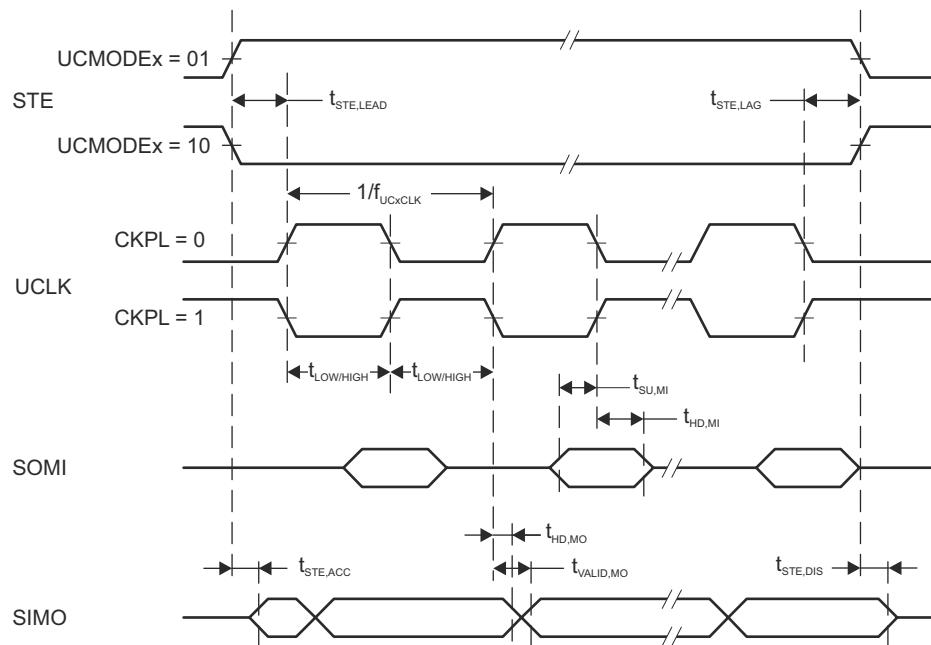
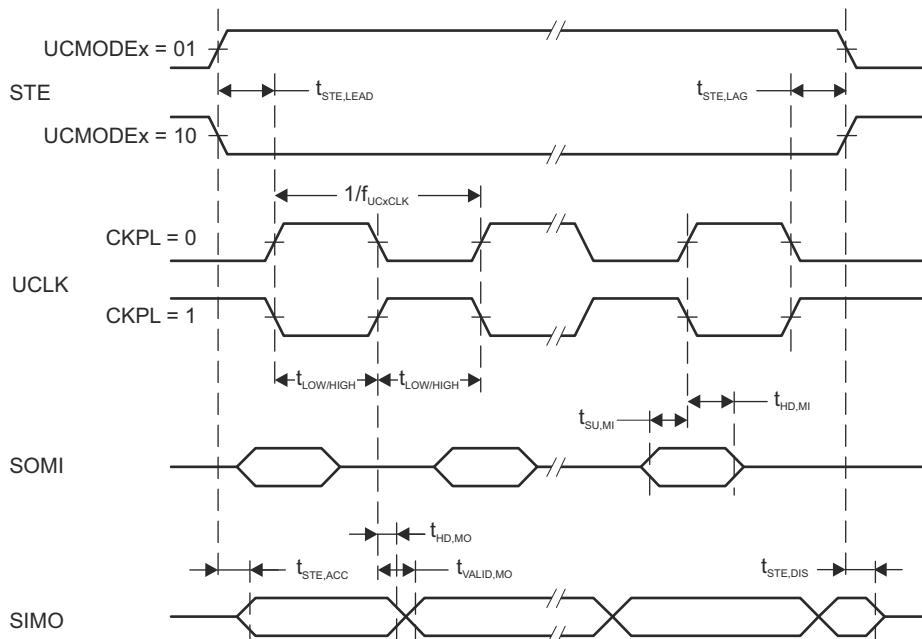

Figure 8-10. SPI Master Mode, CKPH = 0
Figure 8-11. SPI Master Mode, CKPH = 1
(2) Specifies the time to drive the next valid data to the SIMO output after the output changing UCLK clock edge. Refer to the timing diagrams in Figure 8-10 and Figure 8-11.
(3) Specifies how long data on the SIMO output is valid after the output changing UCLK clock edge. Negative values indicate that the data on the SIMO output can become invalid before the output changing clock edge observed on UCLK. Refer to the timing diagrams in Figure 8-10 and Figure 8-11.